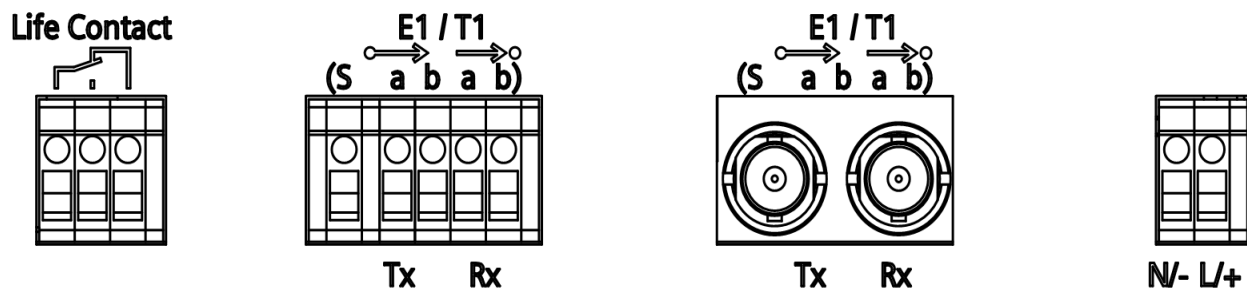

Figure 21 Terminal blocks
- ❑ **E1/T1:** For 7XV5662-0AD00, the signals of the E1/T1 interface must be routed to the 4-pole screw-type terminal (E1/T1) (a rising and clearing core pair each). The screw-type terminal on the left (S) is used for the connection of the cable shield and is connected to the housing. For 7XV5662-0AD01, the signals of the E1/T1 interface must be generated via the BNC connections intended for this. The signals of the E1/T1 interface are galvanically separated from the other circuits. No additional interval is necessary. The interval is obtained from the SDH/PDH network via the receive direction and is also used for sending the data.
- ❑ **GOK (DR):** The device ready contact is routed to three device terminals. The drawing of the terminals on Figure 21 shows the idle state. Under the following conditions the DR-Contact gets active:
The following connections are present (s. Figure 21):